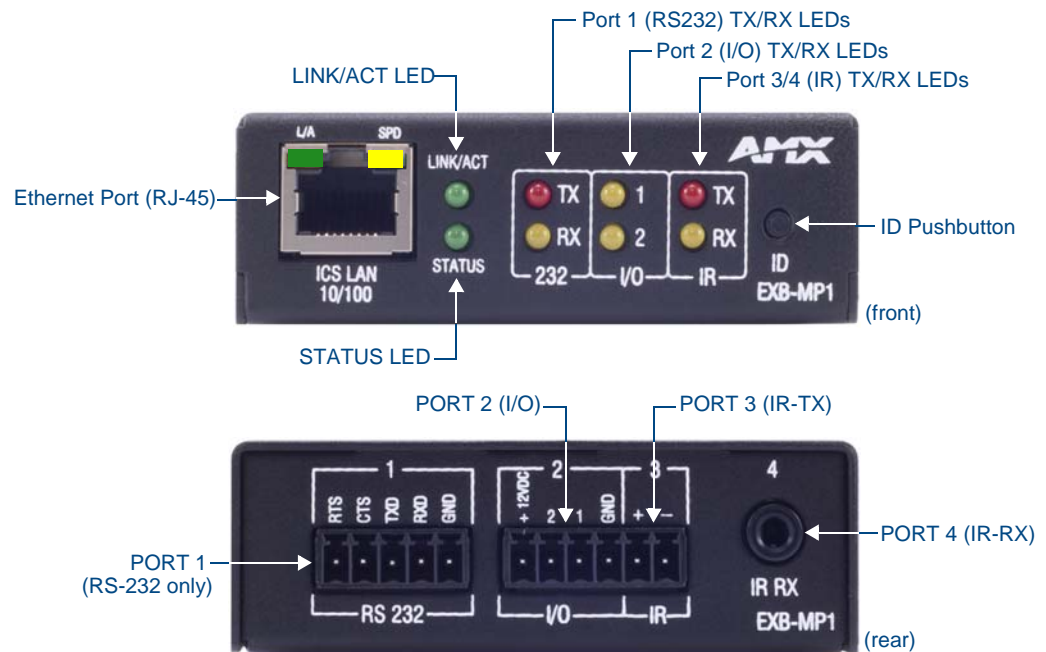

FIG. 9 EXB-MP1
The EXB-MP1 Networked Television Control System Device (**FG2100-26**) provides one Serial (RS-232) port, one I/O port, one IR (TX) and one IR (RX) port (FIG. 9).